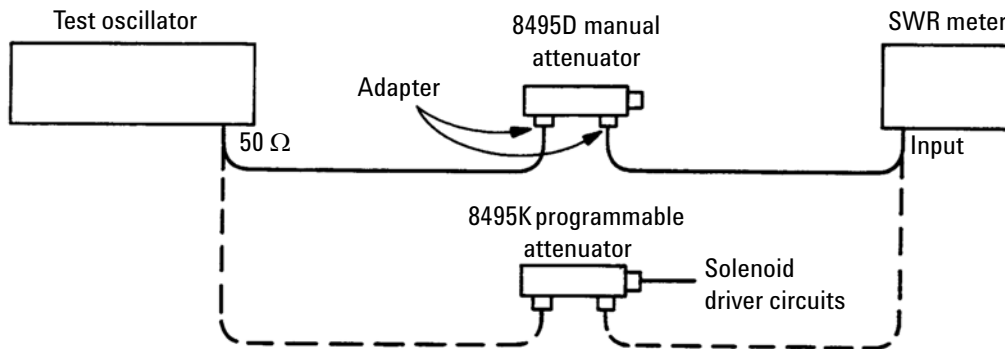

Figure 6 Operator's Check Setup
- 1 Connect equipment as shown in Figure 6 on page 29 with the attenuator set to 0 dB.